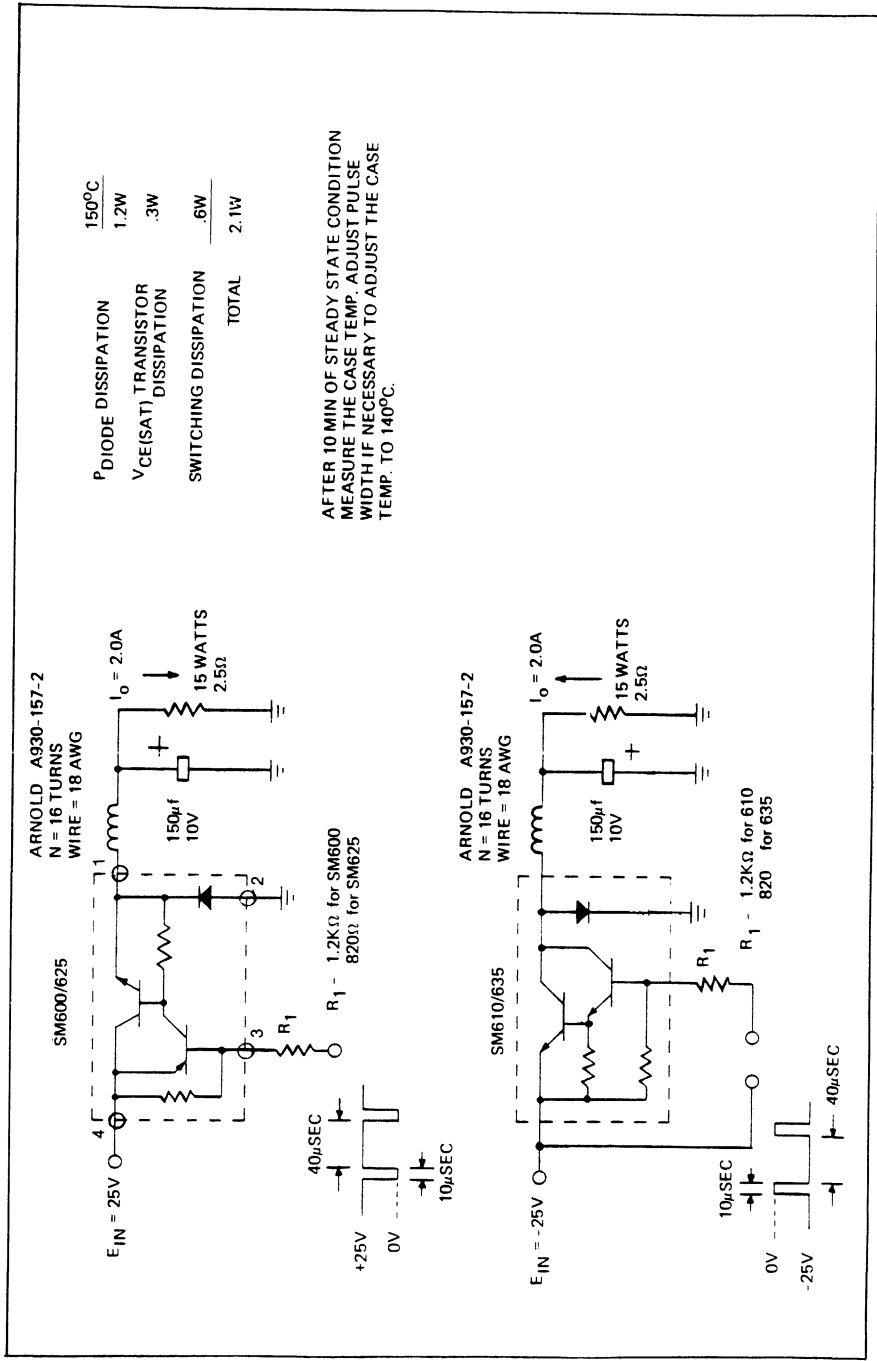

Figure 4. POWER BURN-IN CIRCUIT
$$T_C = 25^{\circ}C, \text{ see Figure 4}$$
4.3.8 Power Stress – Each Hybrid device shall be burned-in using the circuit shown in Figure 4. The conditions are as follows:
Circuit and conditions as shown in Figure 4.